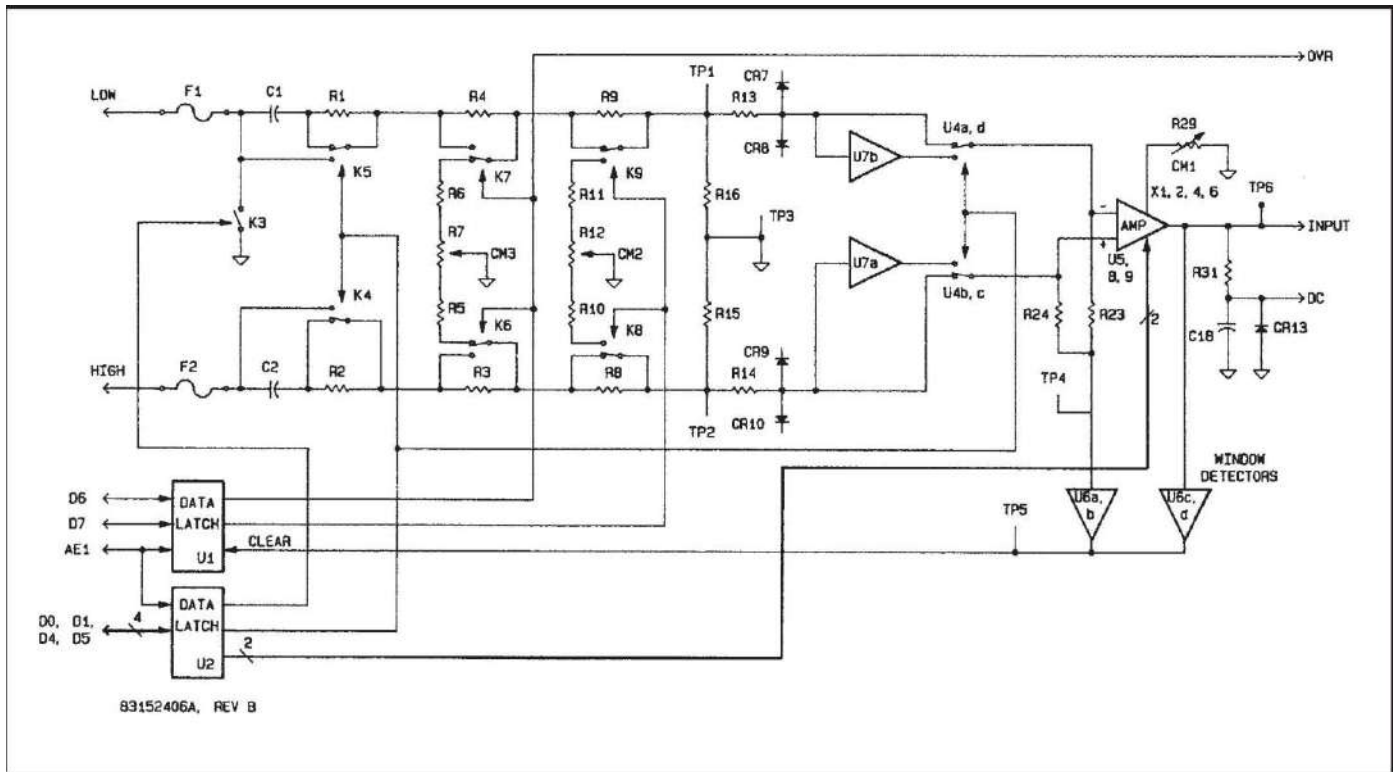

Figure 4-5. Input Circuits Block Diagram.
**4-44. A0 Input Circuits.** The input circuits provide the attenuation and initial gain along with over voltage protection and AC/DC mode switching for the Model 1121A. Refer to Figure 4-5.